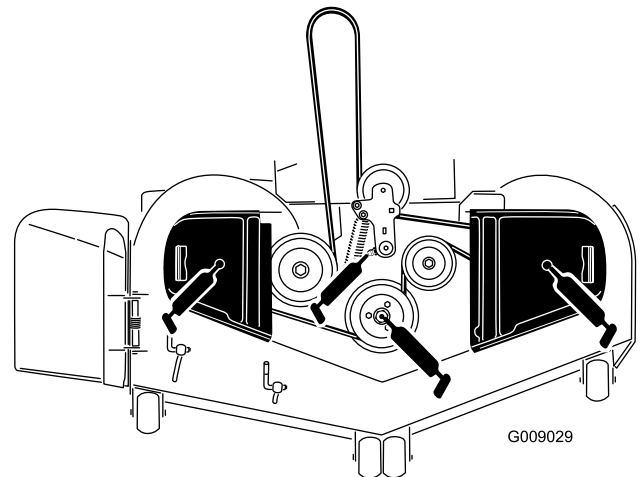

Figure 38
3. Grease the mower deck idler pulley pivot until grease come out the bottom (Figure 38).
4. Grease the 3 spindle bearings until grease comes out the lower seals (Figure 38).
5. Grease the drive belt idler arm (Figure 38).